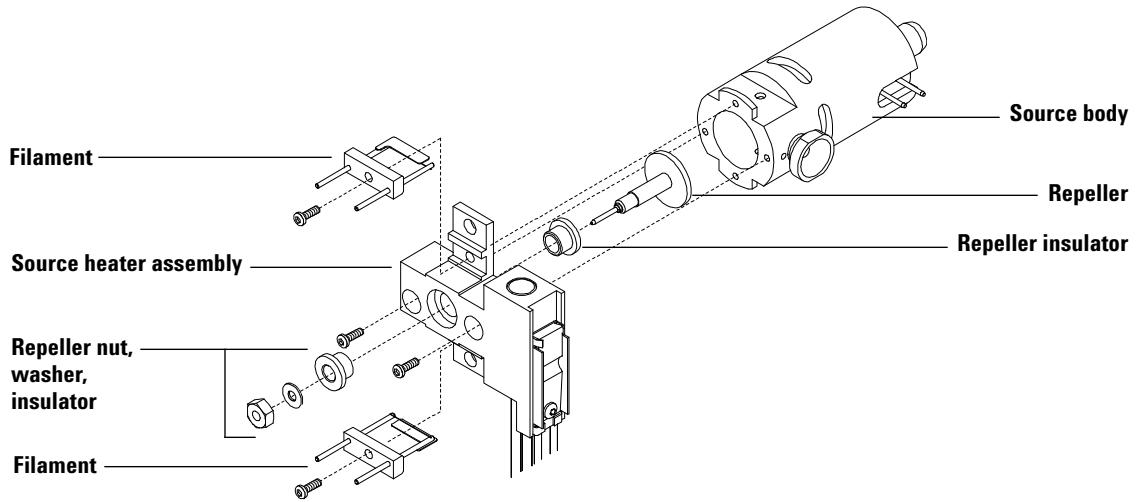

Figure 24 Replacing the heater and sensor
- 5 Remove the repeller assembly (Figure 24). The repeller assembly includes the source heater assembly, repeller, and related parts.
- 2 Reinstall the repeller, repeller insulators, washer, and repeller nut (Figure 24). The resulting assembly is called the repeller assembly.